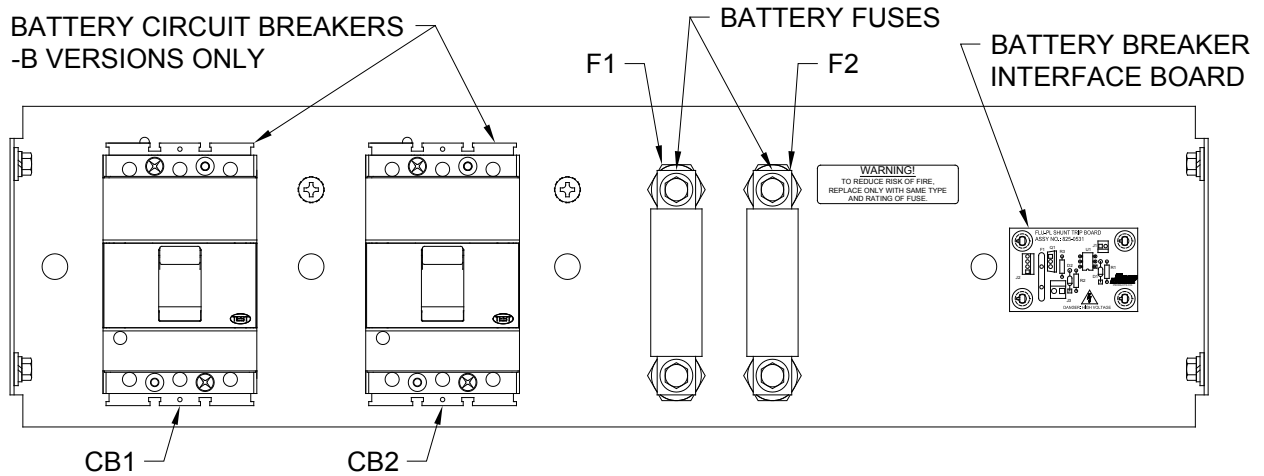
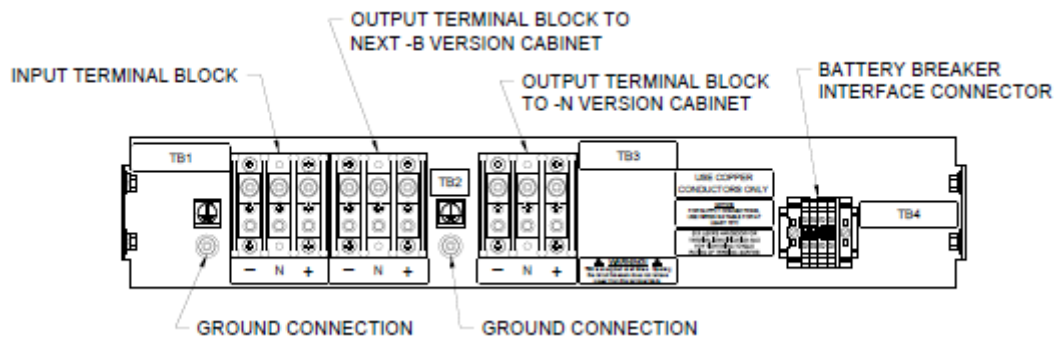

Figure 8 – Circuit Breaker Panel
Figure 9 - Connection Panel
5. Before working within the UPS cabinet, verify that the UPS has no power applied. Before touching the Extended Run Time Battery connector in the UPS, verify that all internal battery strings are disconnected (that is, verify that the blue and white “powerpole” connectors are NOT mated). Refer to the UPS manual. Repeat procedures 3 and 4 to the UPS Extended Run Time Battery connector located in the lower left side of the UPS. We recommend that the wires be marked as to which is positive (+) and negative (-) to ensure that the wires are not accidentally crossed. See **Figure 8** and **Figure 9**.
Figure 9 shows the location of the Battery Breaker Interface terminal block on the battery cabinet.